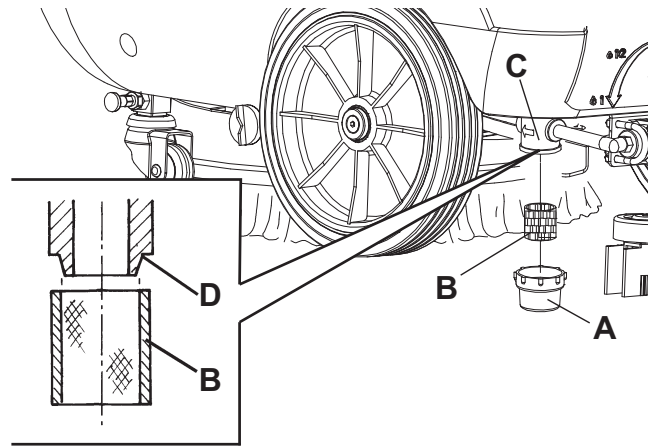

Figure 8
1. Empty the solution tank (32) as shown in the relevant paragraph.
4. Remove the transparent cover (A, Fig. 8) and the filter strainer (B); clean and reinstall them on the support (C).